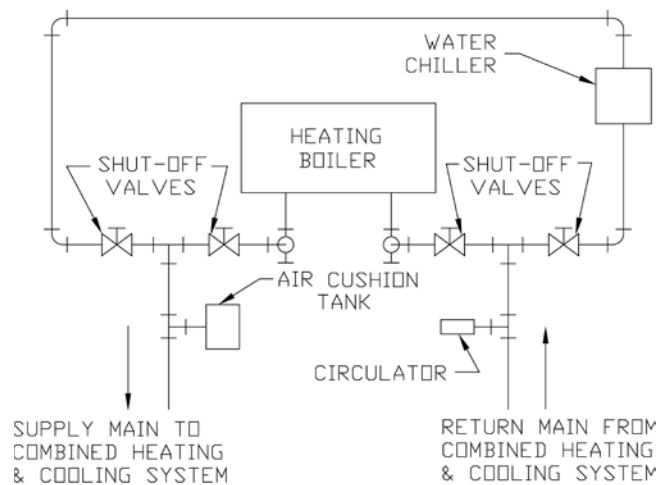

Figure 8: Recommended Piping for Combination Heating and Cooling (Refrigeration) System
- a. If this boiler is used in connection with refrigeration systems, the boiler must be installed so that the chilled medium is piped in parallel with the heating boiler using appropriate valves to prevent the chilled medium from entering the boiler. See Figure 8. Also, consult I=B=R Installation and Piping Guides.